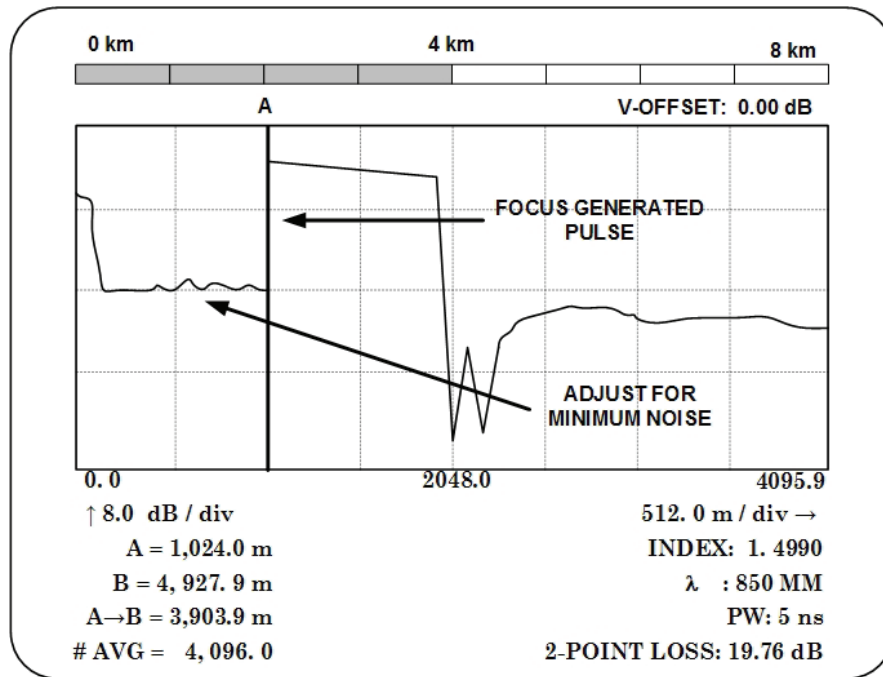

Figure 4. Example of cursor A at leading edge of FOCUS GENERATED PULSE (TD-260C).
- (4) Perform steps (a) and (b) below:
- (a) Press **REAL TIME** pushbutton and adjust **FOCUS VAR ATTN 1** control for minimum noise on trace prior to **FOCUS GENERATED PULSE** (fig. 4).
- (5) Press **HOR CONT** pushbutton until FOCUS GENERATED PULSE is visible on TI display.
- (6) Adjust **CURSOR A** control to place cursor A at leading edge of FOCUS GENERATED PULSE (fig. 4).
- (7) Press **DISPLAY FROM** pushbutton to select A.
- (8) Press **HOR CONT** pushbutton until FOCUS GENERATED PULSE leading edge is visible on TI display. Adjust **CURSOR A** control to place cursor A at leading edge of FOCUS GENERATED PULSE.
- (9) Press **HOR EXP** pushbutton as necessary to display **2.0 m/div** (0.0020 km/div) on TI.